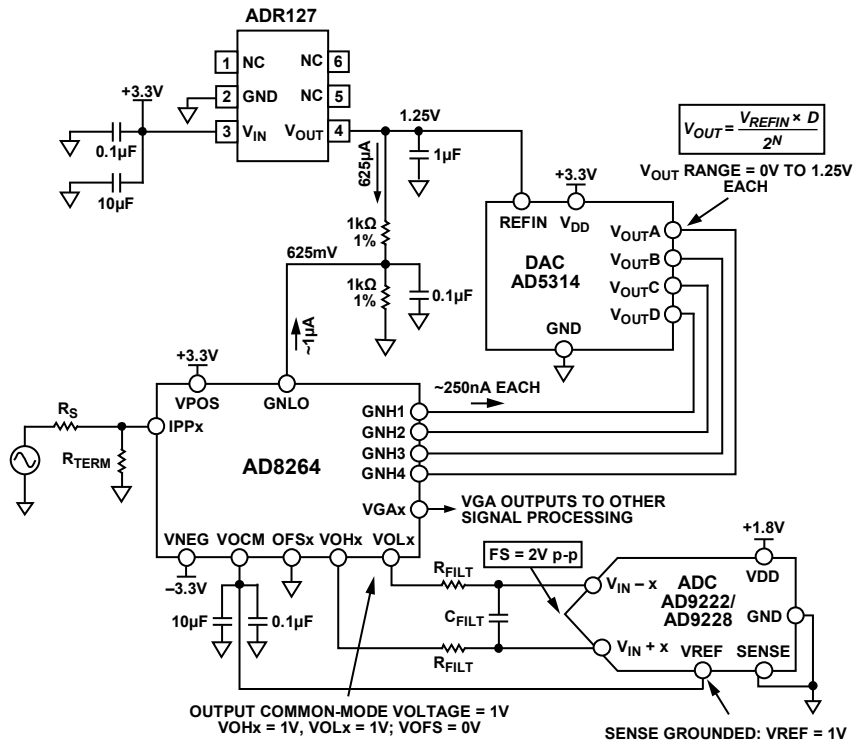
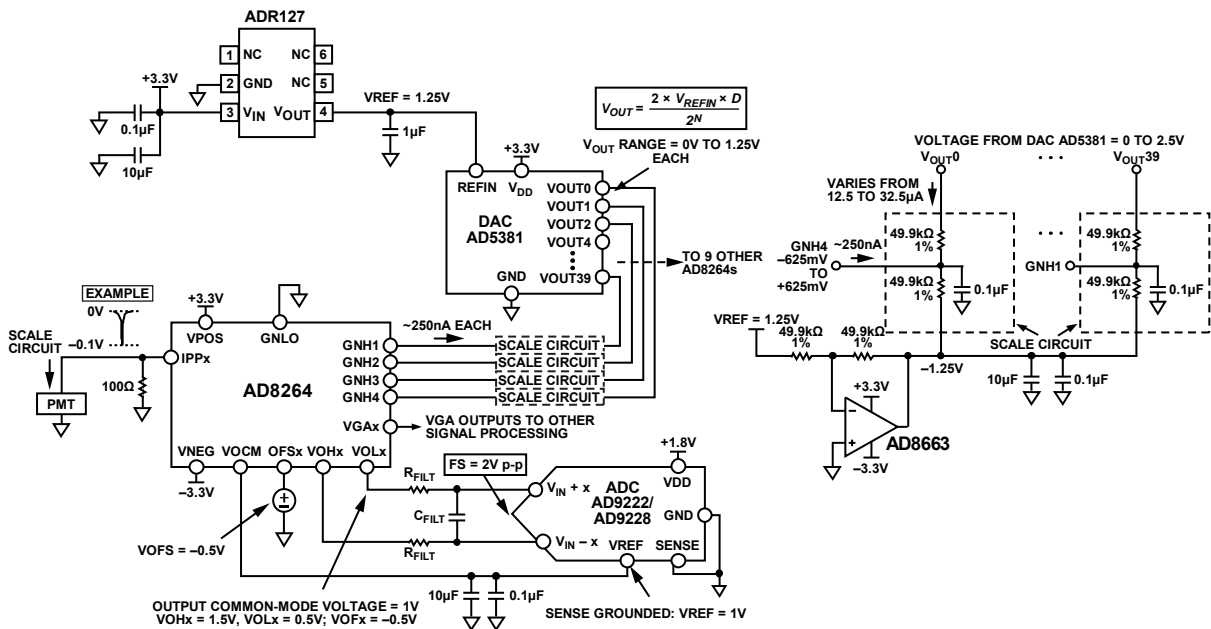

Figure 112. Application Concept of the **AD8264** with the **AD5314** 10-Bit DAC and the **AD9222/AD9228** 12-Bit ADC
Figure 113. Concept Application of AD8264 with 40-Channel AD5381 12-Bit, 3 V DAC and AD9222/AD9228 12-Bit ADC
The **AD8264** is particularly well suited for use in the analog front end of medical PET imaging systems. Figure 112 shows how to use the **AD8264** with the **AD5314** (a 4-channel, 10-bit DAC) and the **AD9222/AD9228** (an octal or quad, 12-bit ADC, respectively). The DAC sets the gain of the **AD8264**. Note that the full gain span of 24 dB is achieved with this setup because the gain control input range of the **AD8264** is very close to 1.25 V. The GNLO pin must offset by  $1.25/2 = 625$  mV because the gain control input is bipolar around the voltage applied at GNLO. This is done with two 1 kΩ, 1% resistors. The approximately 1 μA of bias current flowing from the GNLO pin does not contribute a significant error because the basic gain error of the **AD8264** is the limiting factor.
Figure 112 also includes the DAC output equation, which indicates that the output can vary between 0 V and  $V_{REF} = 1.25\text{ V}$ .
The single-ended-to-differential amplifier of the **AD8264** amplifies the VGA output signal by 6 dB and can provide the required dc bias of the **AD9222/AD9228**, as shown in Figure 112. The ADC is connected with the default internal reference because the SENSE pin is grounded. With this connection, the **AD9222/AD9228** VREF pin is an output that provides 1 V; this is then connected to the VOXM input of the **AD8264**, which sets the output common-mode voltage of the VOHX and VOLX pins to 1 V. This voltage is very close to the recommended optimal value of  $V_{DD}/2 = 0.9\text{ V}$ . With this configuration, the ADC inputs are set to a full-scale (FS) of 2 V p-p.
The dc connected concept example in Figure 113 is an application with the 40-channel AD5381, 3 V, 12-bit DAC. The main difference between this example and Figure 112 is that, for the same ADR127 1.25 V reference, the full-scale output of the DAC is from 0 V to  $2 \times V_{REFIN} = 2.5$  V. Two options for gain control include the following:
- Use the same circuit as in Figure 112 but use only half the DAC output voltage from 0 V to 1.25 V. This is the simplest solution, requiring the fewest extra components. Note that the overall gain resolution increases by one bit to 11 bits over the 10-bit AD5314.
- Ground GNLO and scale the DAC output so that the GNHx inputs vary from  $-0.652$  V to  $+0.625$  V. Figure 113 shows a possible circuit implementation using a divider between the DAC output and a  $-1.25$  V reference.
Figure 113 shows how the AD8264 is connected in a PET application. The PMT generates a negative-going current pulse that results in a voltage pulse at the preamplifier input and a differential output pulse on VOLx and VOHx.
A convenient method of verifying and customizing the signal chains shown in Figure 112 and Figure 113 is by ordering the corresponding evaluation boards available on [www.analog.com](http://www.analog.com). The AD8264-EVALZ is a platform through which the user can quickly become familiar with the features and performance capabilities of the AD8264. See the Evaluation Board section for more information.